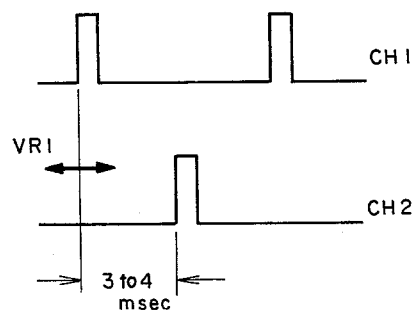

Fig. 26
- Adjust VR1 (20 k Ω) until as in Fig. 26.